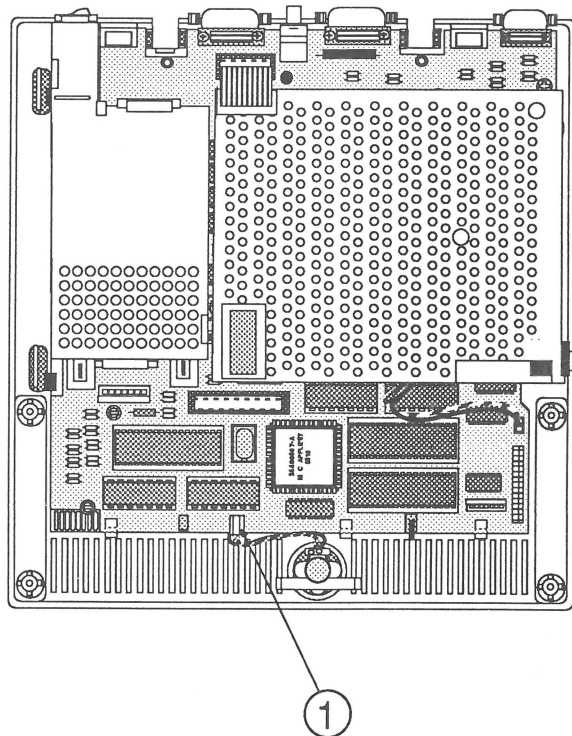

FIGURE 10
2. Disconnect the speaker cable from logic board connector J10 (Figure 10, #1).